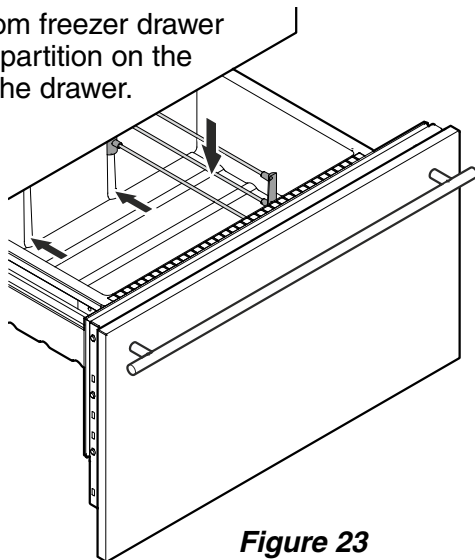

**Figure 22**
## Freezer compartment description - Figure 22
- The ice maker can only make ice cubes if the upper freezer drawer is completely closed and the ice cube bin is installed correctly (**Figure 22**).
- Finally, clean the ice cube bin (**Figure 22**).
The ice cubes fall out of the ice maker into the ice cube bin (**Figure 22**). When the ice reaches a certain level in the bin, the appliance stops producing ice automatically. The ice maker will not fill the bin to the top.
Be sure the upper freezer drawer is completely closed and the ice cube bin is installed correctly. (**Figure 22**).